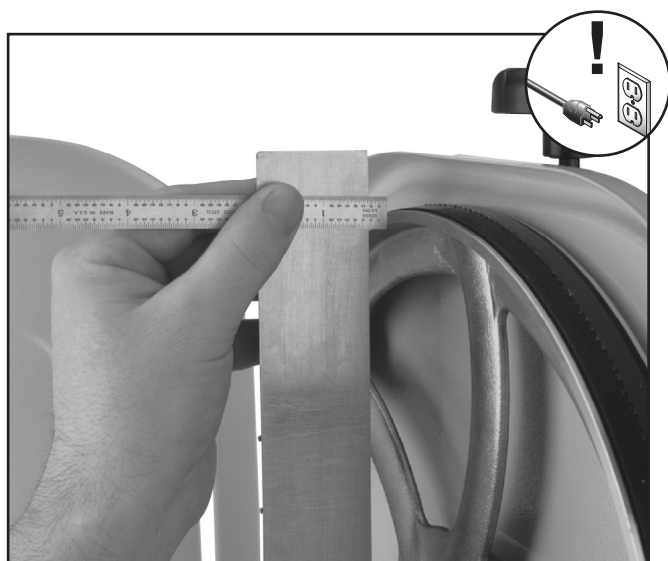

Figure 47. Measuring wheel difference.
1. Adjust the tracking knob so the top wheel is parallel with the bottom wheel. With the straightedge touching both points of the wheel that does not need to be adjusted, measure the distance away from the incorrect wheel with a fine ruler (see **Figure 47**). The distance measured with the ruler is the distance the wheel must be corrected.